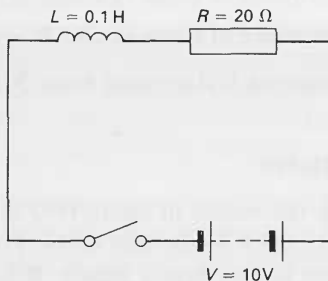

Figure H94
- 39, 40(R)** A coil of inductance 0.1 H is connected, as shown in figure H94, to a resistor of resistance $20\ \Omega$, and to a 10 V battery (of negligible internal resistance). The switch is initially open.